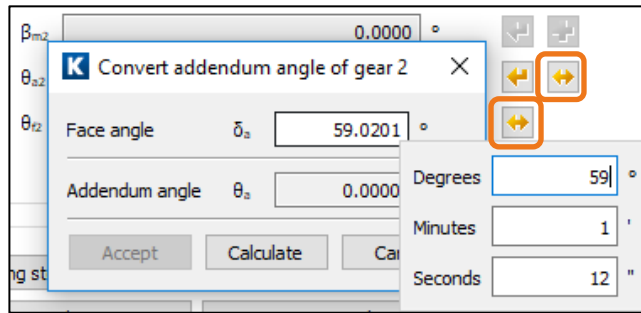

Figure 4. Input and convert tip and root angle
6. Before you can input the «Tip and root angle gear 2», you must first run the calculation with  or press «F5» to calculate the reference cone angle. Right-click on «Convert»  to input the tip and root angle. Then click «Calculate» to calculate the tooth angle and include this in the calculation (see Figure 4).